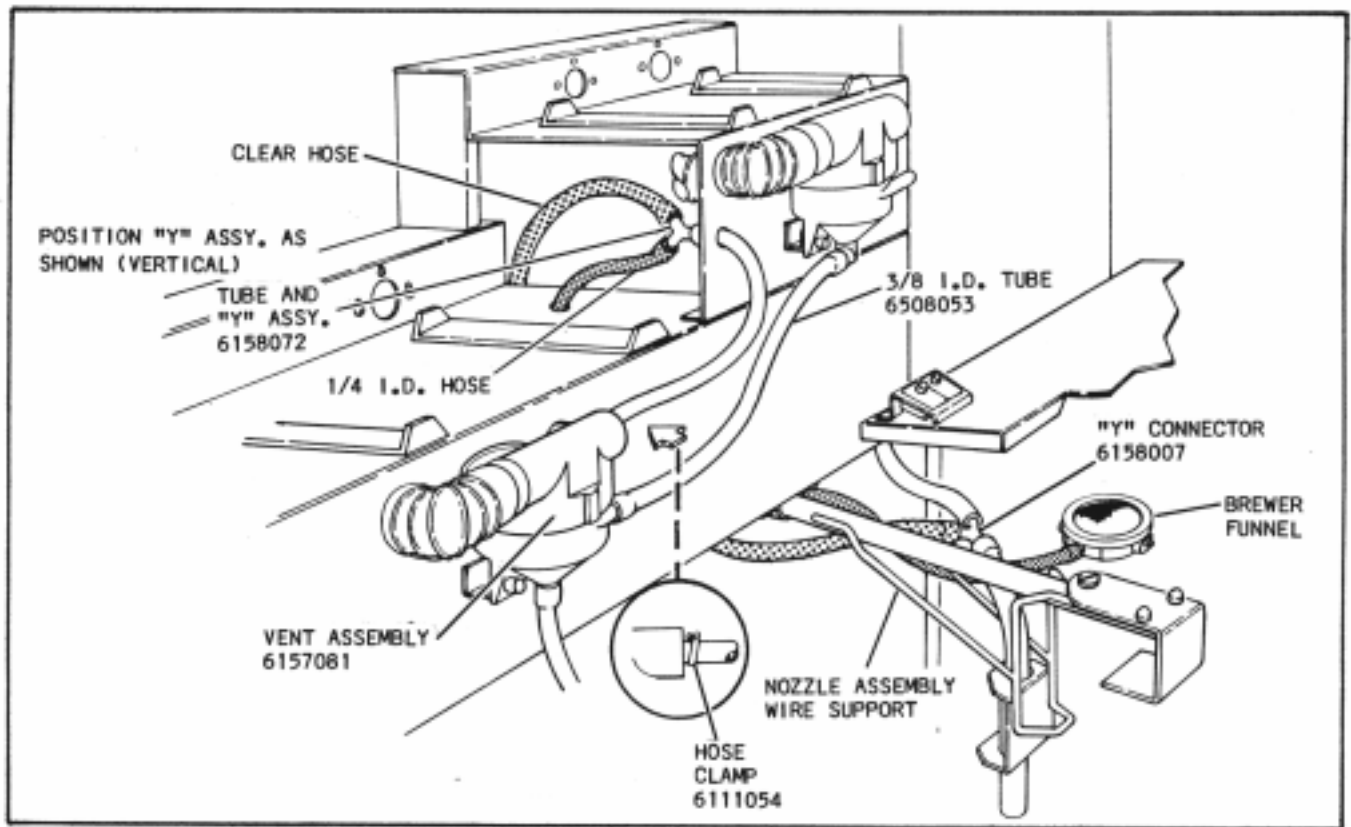

FIGURE 2
3. Insert 3/8 I.D. hose through hole in front of shelf. Pull hose until "Y" is tight against back of shelf. Refer to Figure 2.
4. Cut water tank clear overflow hose at wire brace of nozzle support assembly. Connect hose with "Y" as shown in Figure 2.
6. Install the hose clamp provided approximately 3/8 of an inch from end of 3/8 inch hose protruding from hole in shelf. Place hose onto the vent cap stainless steel tube. Make sure hose is flush with vent cap plug as shown in Figure 2. Place other end of hose onto elbow of tea/decaf bowl.